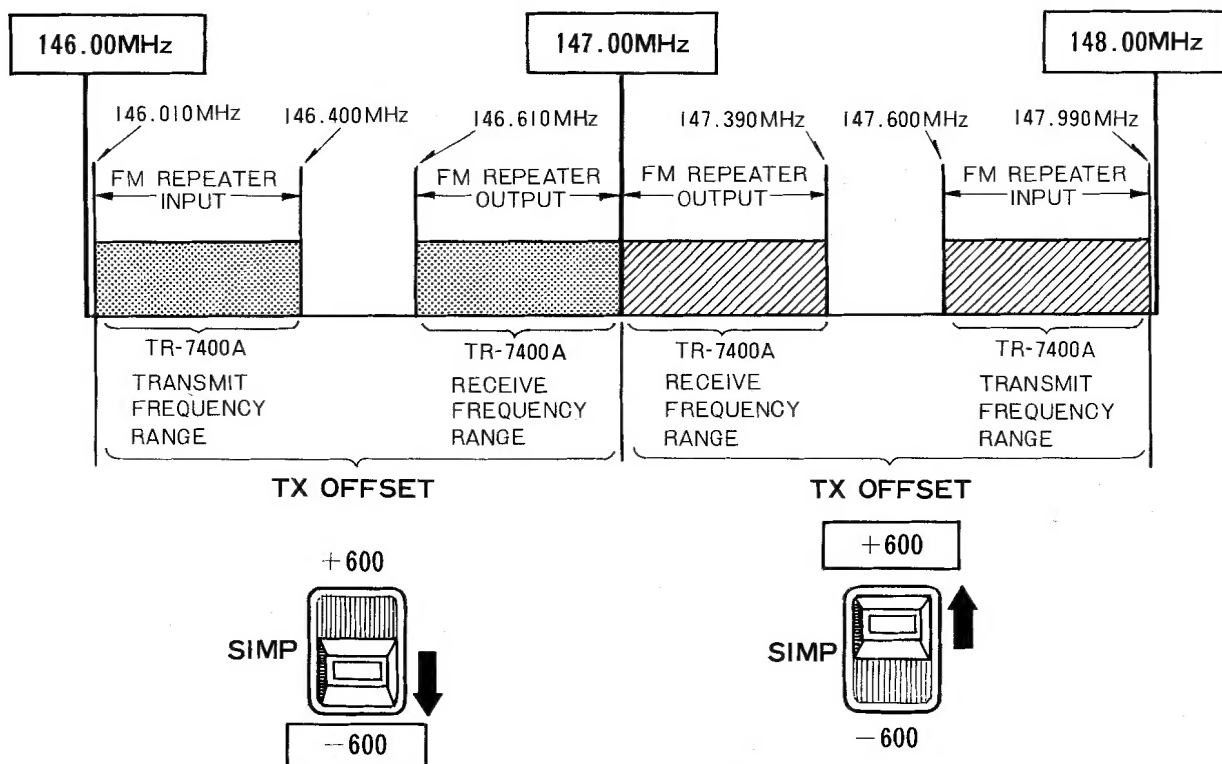

Fig. 7 Layout of the Two Meter Band
1. The TX OFFSET Switch ⑰, as described above, shifts 600 kHz higher or lower only the RF transmit frequency of your Transceiver irrespective of the positions of the MHz, 100 kHz, and 10 kHz Selector Switches ⑫, ⑬, ⑭ and 5 kHz Offset Switch ⑮, leaving the RF receive frequency as displayed. In general, repeater operation is done by setting the TX OFFSET Switch ⑰ to +600 for the Frequency range of 147.000 to 147.390 MHz and to -600 for 146.610 to 147.000 MHz (see Fig. 7).
2. In using the TX OFFSET Switch ⑰, particular care should be observed not to transmit out of the frequency band of 144 to 148 MHz.